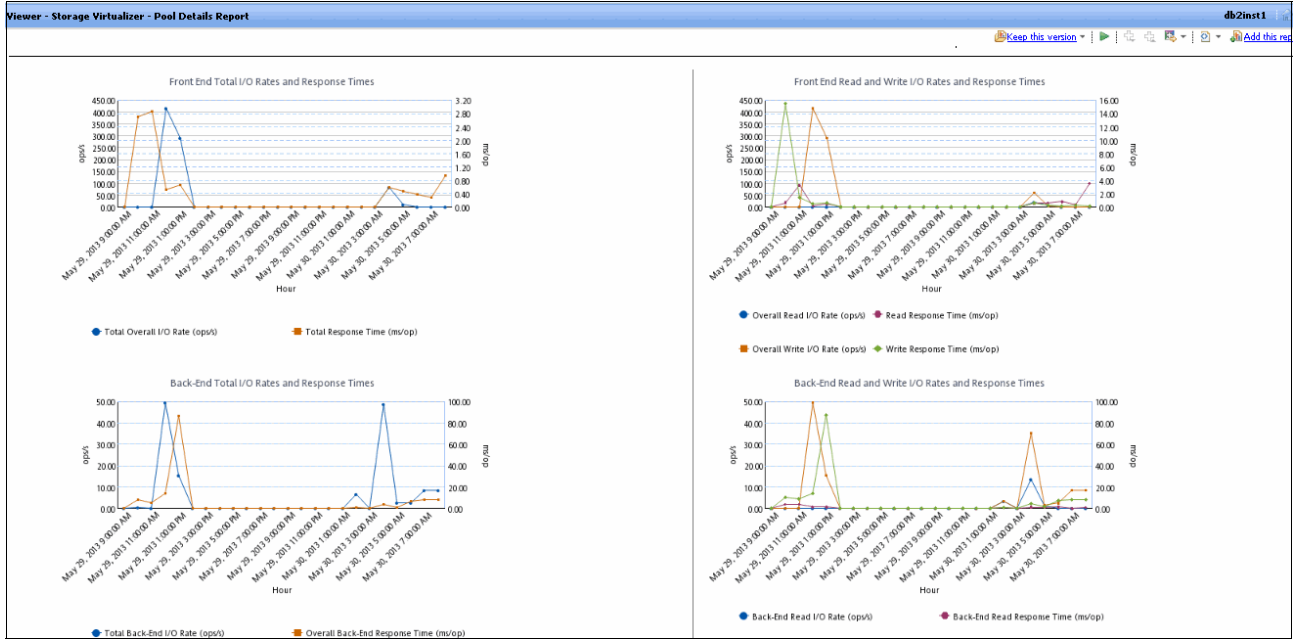

Figure 11-106 Pool details
11. Figure 11-106 shows Storage Virtualized Pool details in graph format.